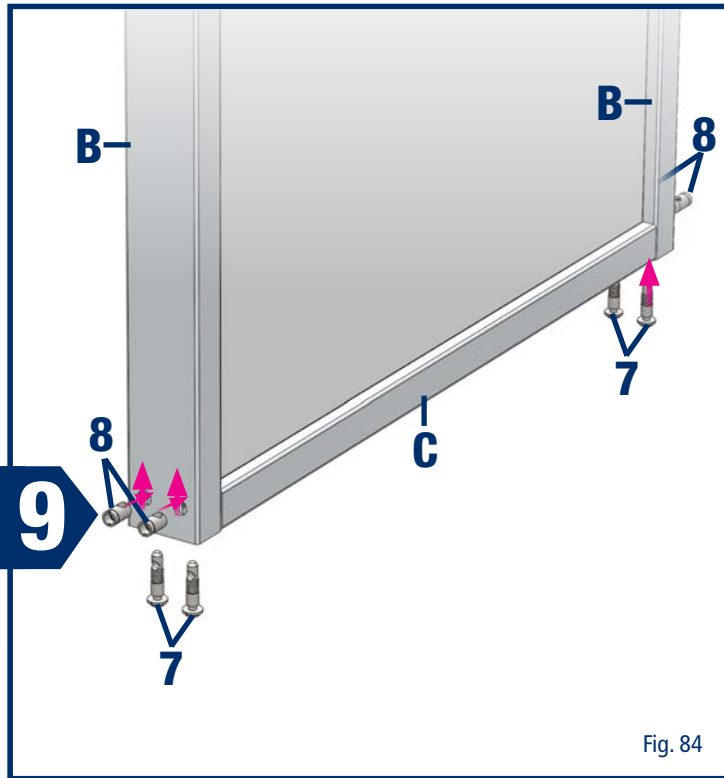

Fig. 84
Check whether the straight anchors (Fig. 76, item 7) and the cross-pieces (Fig. 76, item 8) are installed on the bottom end of the profiles 40x80x480 (Fig. 84, item B). If not, please install them.